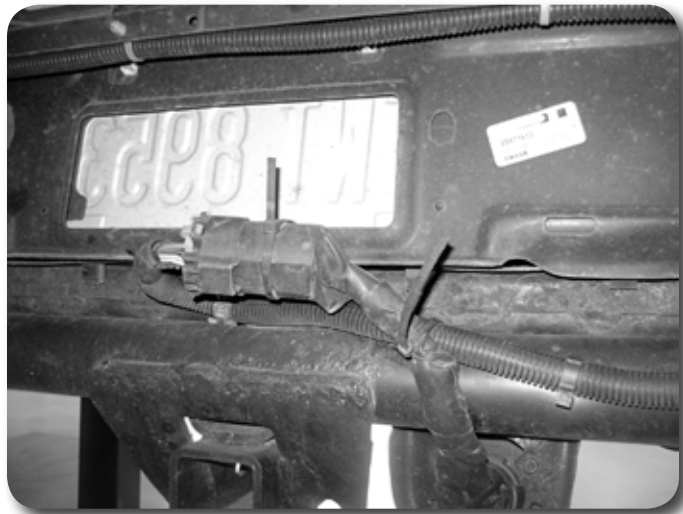

Figure 10
16. Disconnect trailer wiring harness plug from the hitch. Figure 10. Cut any wire ties that may keep the bumper from being removed.